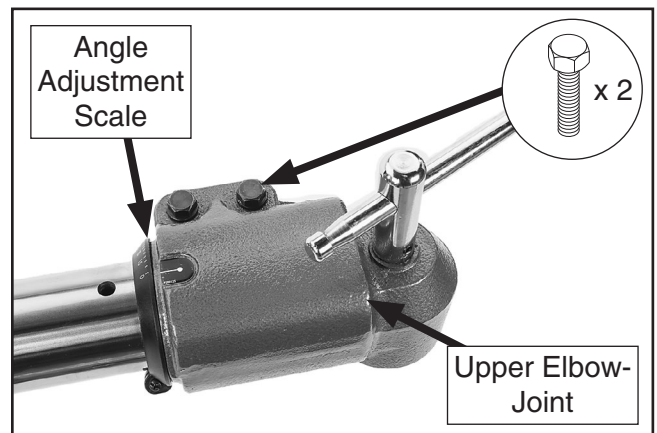

Figure 10. Angle adjustment scale installed onto upper elbow-joint.
4. Slide angle adjustment scale onto overarm shaft, slide upper elbow-joint onto overarm shaft, then secure for now by tightening one of the hex bolts shown in **Figure 10**.